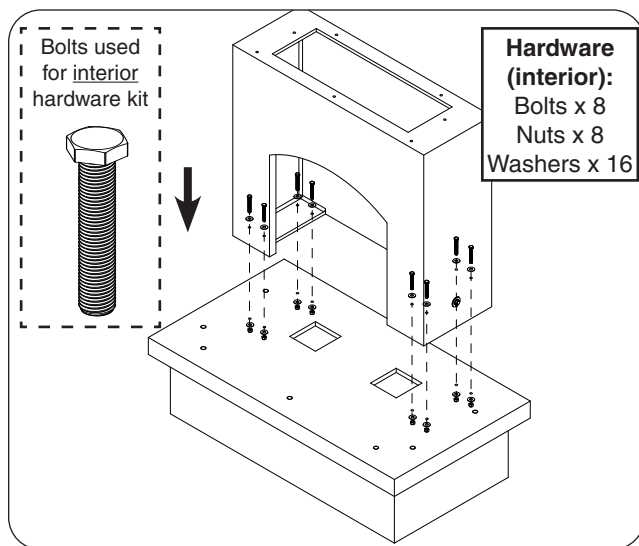

Fig. 21-3 Assemble body
3. Place the body piece on top of the shelf. Carefully align the pilot holes, and insert the hardware (interior hardware kits) in the order shown in Fig. 21-3. Hand tighten, then use two 3/4" open end wrenches (or equivalent) to fasten.